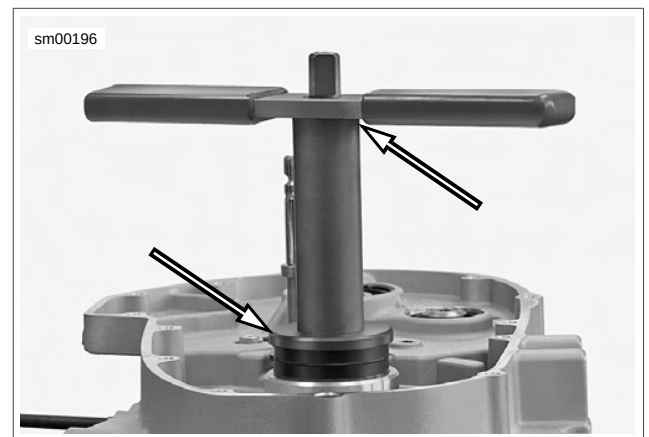

Figure 3-141. Sprocket Shaft Seal/Spacer Installer
- See Figure 3-141. For model year 2008, Kent-Moore has developed additional tools to be used with SPROCKET SHAFT BEARING INSTALLER (Part No. HD-42579). You will need SPROCKET SHAFT ADAPTER (Part No. B-42579-6) and COLLAR (Part No. B-42579-7). The addition of these tools will update HD-42579 SPROCKET SHAFT BEARING INSTALLER to HD-42579-A. In addition, you will need SPROCKET SHAFT SEAL INSTALLER (Part No. B-45676-A) to use with these model year 2008 tools to install the seal into the left crankcase. In order to install the sprocket shaft inner bearing race for 2008, you will need to borrow from the Big Twin SPROCKET SHAFT SEAL INSTALLER, COLLAR (Part No. HD-97228-55A).